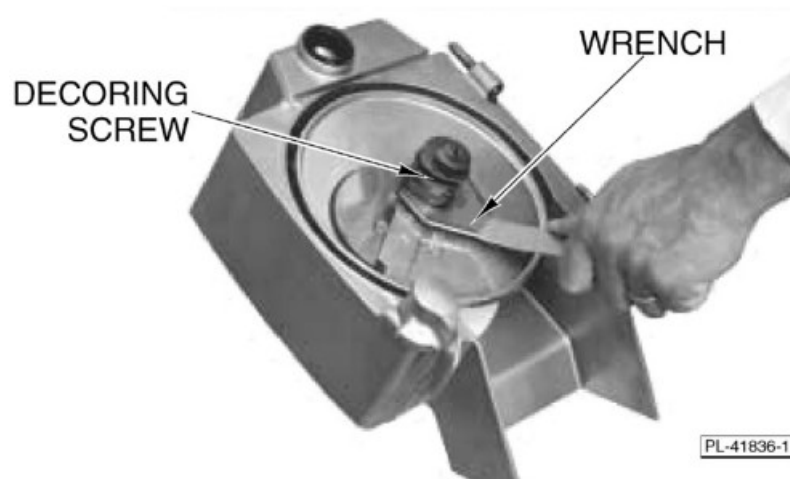

Fig. 6
4. Remove the decorating screw by turning it clockwise with the wrench (Fig. 6).